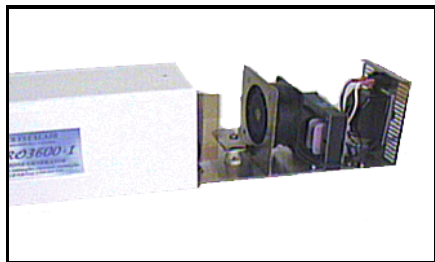

Figure 2
2. (PRO 3400) Gently slide out the generator chassis **(SEE FIG.2+3).**